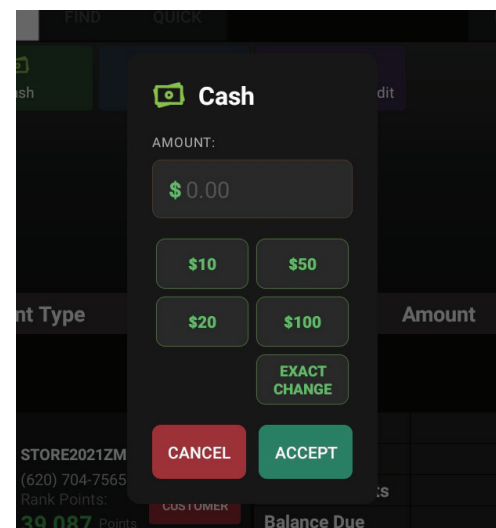

Figure 53b
2. The system will prompt for the amount provided. (Figure 53b)